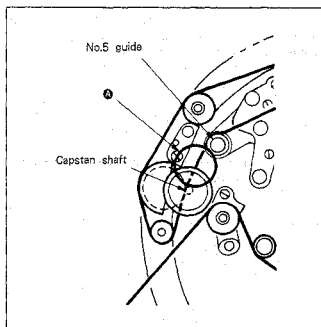

Fig. 7-88.
Note: If No.6 guide is raised too much, wrinkles may occur in section A between the capstan shaft and No.5 guide. Confirm that no wrinkles are occurring. (See Fig. 7-88.)
Note: If No.6 guide is raised too much, wrinkles may occur between the capstan shaft and No. 5 guide (in section ② of Fig. 7-88.). Confirm that no wrinkles are occurring.